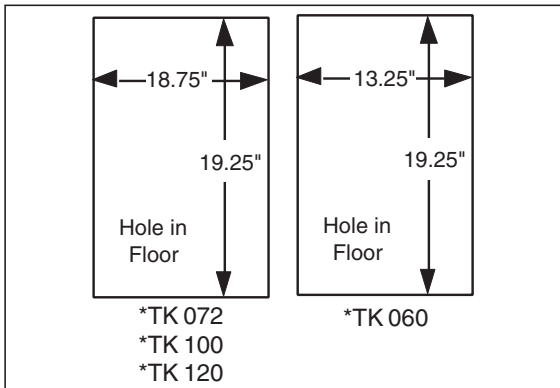

Figure 2. Opening for Concrete Slab
1. Construct a hole in the floor per the dimension in Figure 2.